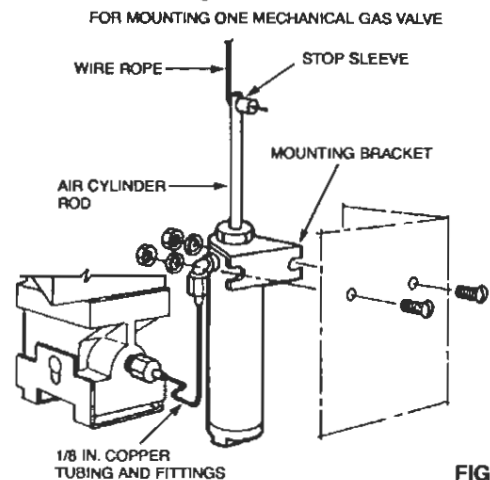
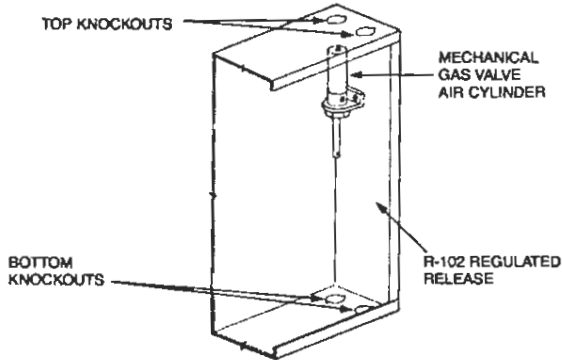

FIGURE 38
FIGURE 39
- ▶ 4. Locate air cylinder and bracket assembly over the two 7/32 in. (0.6 cm) holes on right side of the enclosure. Assemble with screws, lockwashers, and nuts. Wrench tighten. See Figure 38. Air cylinder(s) can also be mounted in the inverted position, allowing for direct exit out the knockout(s) in the bottom of the enclosure. See Figure 39.
6. Install the necessary 1/8 in. copper tubing and fittings for each air cylinder to the accessories piping arrangement on the regulated release mechanism. See Figures 38 and 40.
9. Beginning at the regulated release assembly, thread the end of the wire rope through hole provided in air cylinder rod. See Figure 38.
12. With the end of wire rope already threaded through hole in air cylinder rod, slide stop sleeve (Part No. 26317) onto wire rope and leave loose. Do not crimp stop sleeve at this time. See Figure 38.
14. Raise air cylinder rod "UP" to its maximum extended position. See Figure 38.
16. Slide stop sleeve against air cylinder rod, make certain all slack is removed from wire, and crimp stop sleeve. See Figure 38.